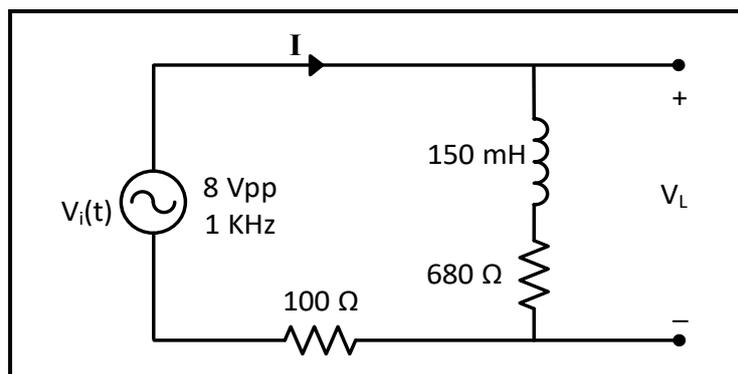
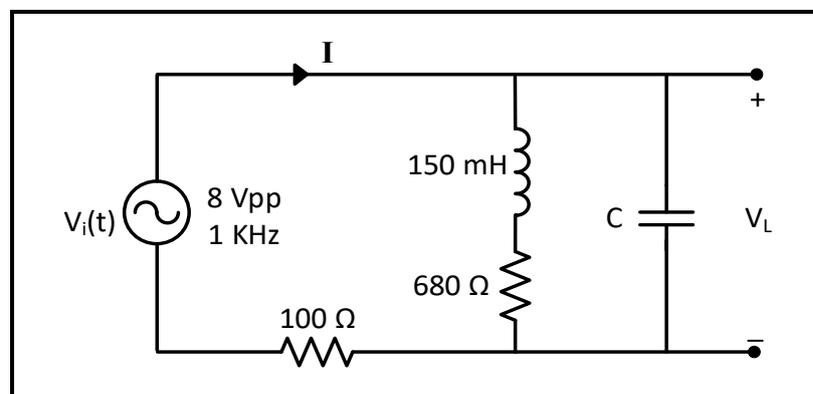

Figure 9.6
Figure 9.7
2. For the circuit of Figure 9.6:
- Use PSPICE to do transient analysis of the circuit in Figure 9.6, show $I_L(t)$ and $V_L(t)$ on one graph, you will need different Y-axis, and measure the power factor (from the time difference between the two waveforms).
1. Connect the circuit of Figure 9.6, set the function generator to produce a sinusoidal voltage at $8V_{PP}$ and $f = 1 \text{ KHz}$.
1. For the circuit of figure 9.6: connect the capacitor value that you calculated in your prelab to correct the power factor to unity, in parallel with the load as shown in figure 9.7.